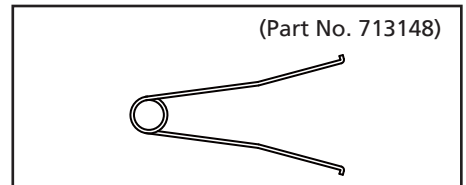

Figure 33
- Remove the sleeve using the sleeve remover (special tool: part number 713148) (See Figures 33 & 34).